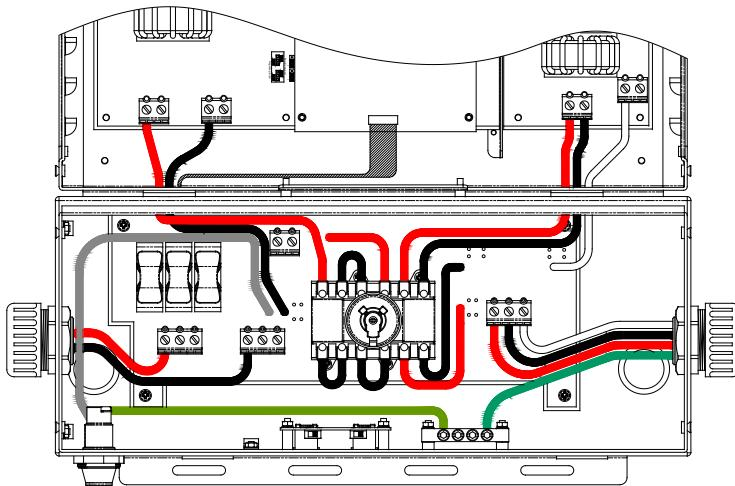

Fig 2.3.2.1
The wiring box of the SiE Inverter is designed to have a pair of the DC terminal blocks which support up to four (4) independent PV strings to be connected in parallel in the wiring box and then feed into the inverter. The SiE Inverter is shipped with up to four (4) 15A, 600 VDC PV string fuses for the PV strings. For the SiE2900, it is shipped with three (3) 15A, 600 VDC PV string fuses, and therefore, the fourth pair of terminals (from left as shown in figure 2.3.2.1) shall not be used to connect to the PV string. Please refer to the section 5.4.2 for the replacement of the PV string fuses.